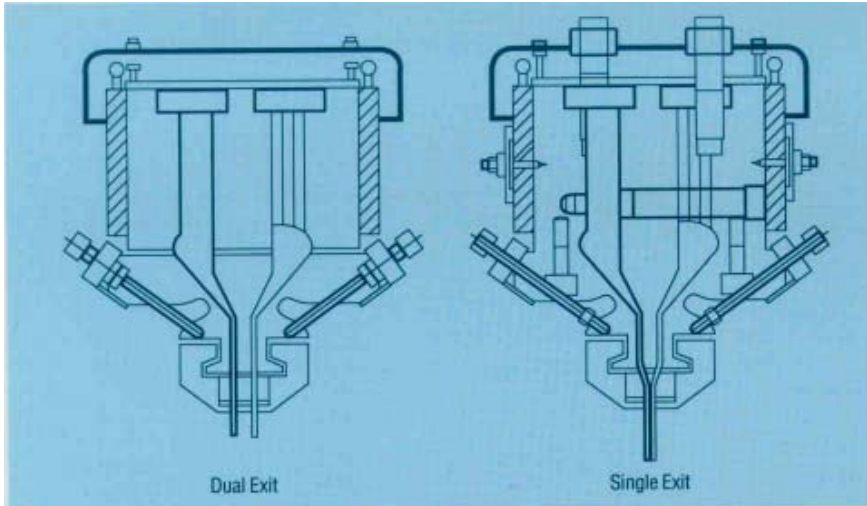

Figure 37. Designs of Manifold Dies
- Dual manifold dies come as single exit dies, which combine the polymer internally just before the exit, or as dual slot dies. Single exit dies, the preferred choice, provide better adhesion and melt curtain draw strength. Dual slot dies are used when the viscosities of the polymers are so different that melt pressure and melt temperature variables prevent an even flow of both curtains from the die lips. Melt curtain surging and melt fractures on the polymer interface can result. With dual slot dies (**Figure 37**), each layer can be individually adjusted by changing the separate slot die lip adjusting bolts.